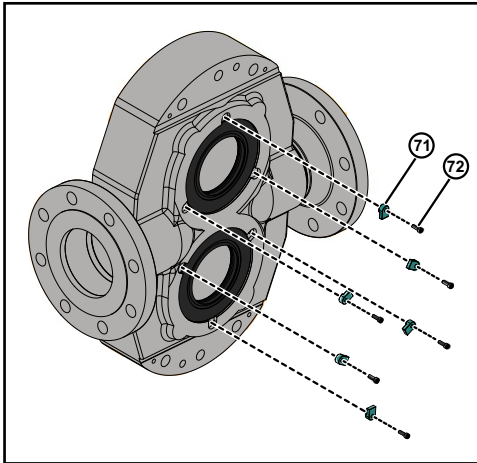

Figure 85 - Remove Screws and Retainer-tab
1. Remove all the retainer-tab bolts (72) and retainer-tabs (71) from the pump body, as shown in Figure 85. This is *applicable for model 006-130*.